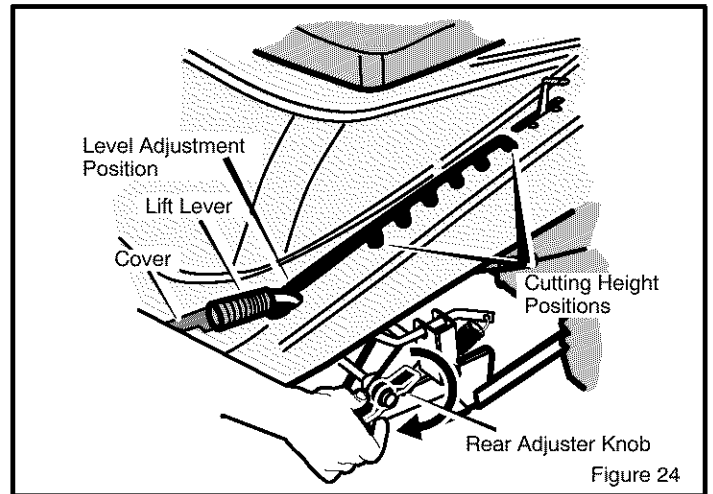
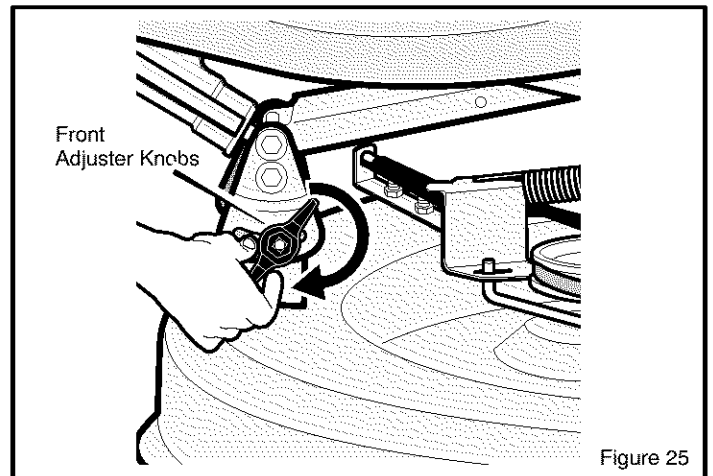

Figure 24
Figure 25
3. Open the **cover** (see Figure 24).
4. Move the **lift lever** to the LEVEL ADJUSTMENT position (see Figure 24).
5. Loosen the front and rear **adjuster knobs** (see Figure 24 and Figure 25). Make sure both sides of the mower housing are setting on a flat surface. Also, make sure the lift links and adjuster plates are loose and can easily move up or down.